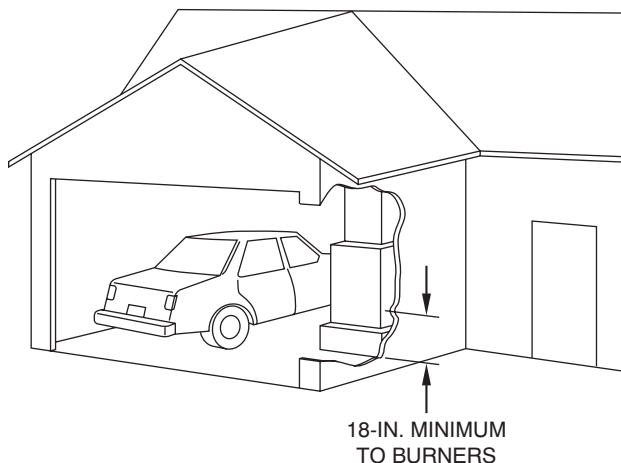

Fig. 18 - Installation in a Garage
When furnace is installed in a residential garage, it must be installed so that burners and ignition sources are located a minimum of 18 in. (457.2 mm) above floor. The furnace must be located or protected to avoid physical damage by vehicles. When furnace is installed in a public garage, airplane hangar, or other building having a hazardous atmosphere, unit must be installed in accordance with requirements of National Fire Protection Association, Inc. (See Fig. 18.)
2. Fig. 18 illustrates how to provide **TWO OUTDOOR OPENINGS**, one inlet and one outlet combustion and ventilation air openings to the outdoors.